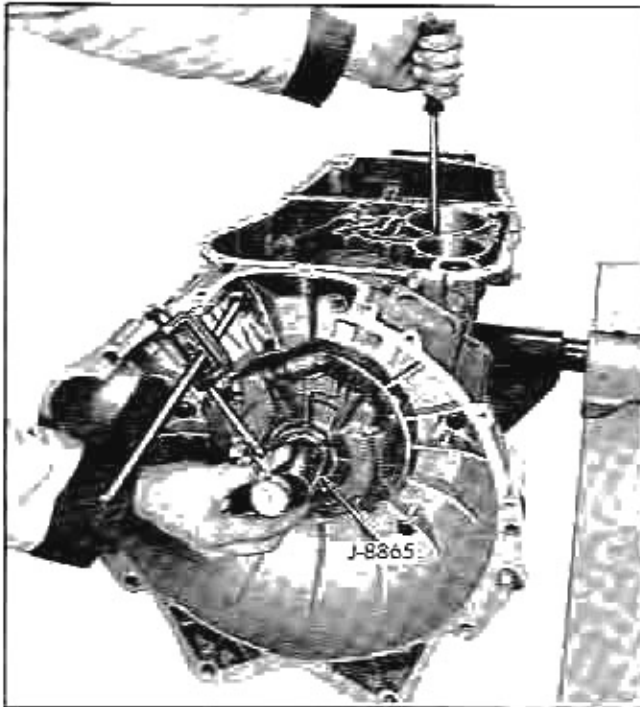

Fig. 124 Tool Set-Up for End Play Check
- b. Install dial indicator support J-6126 into remaining hole in transmission case (Fig. 124).